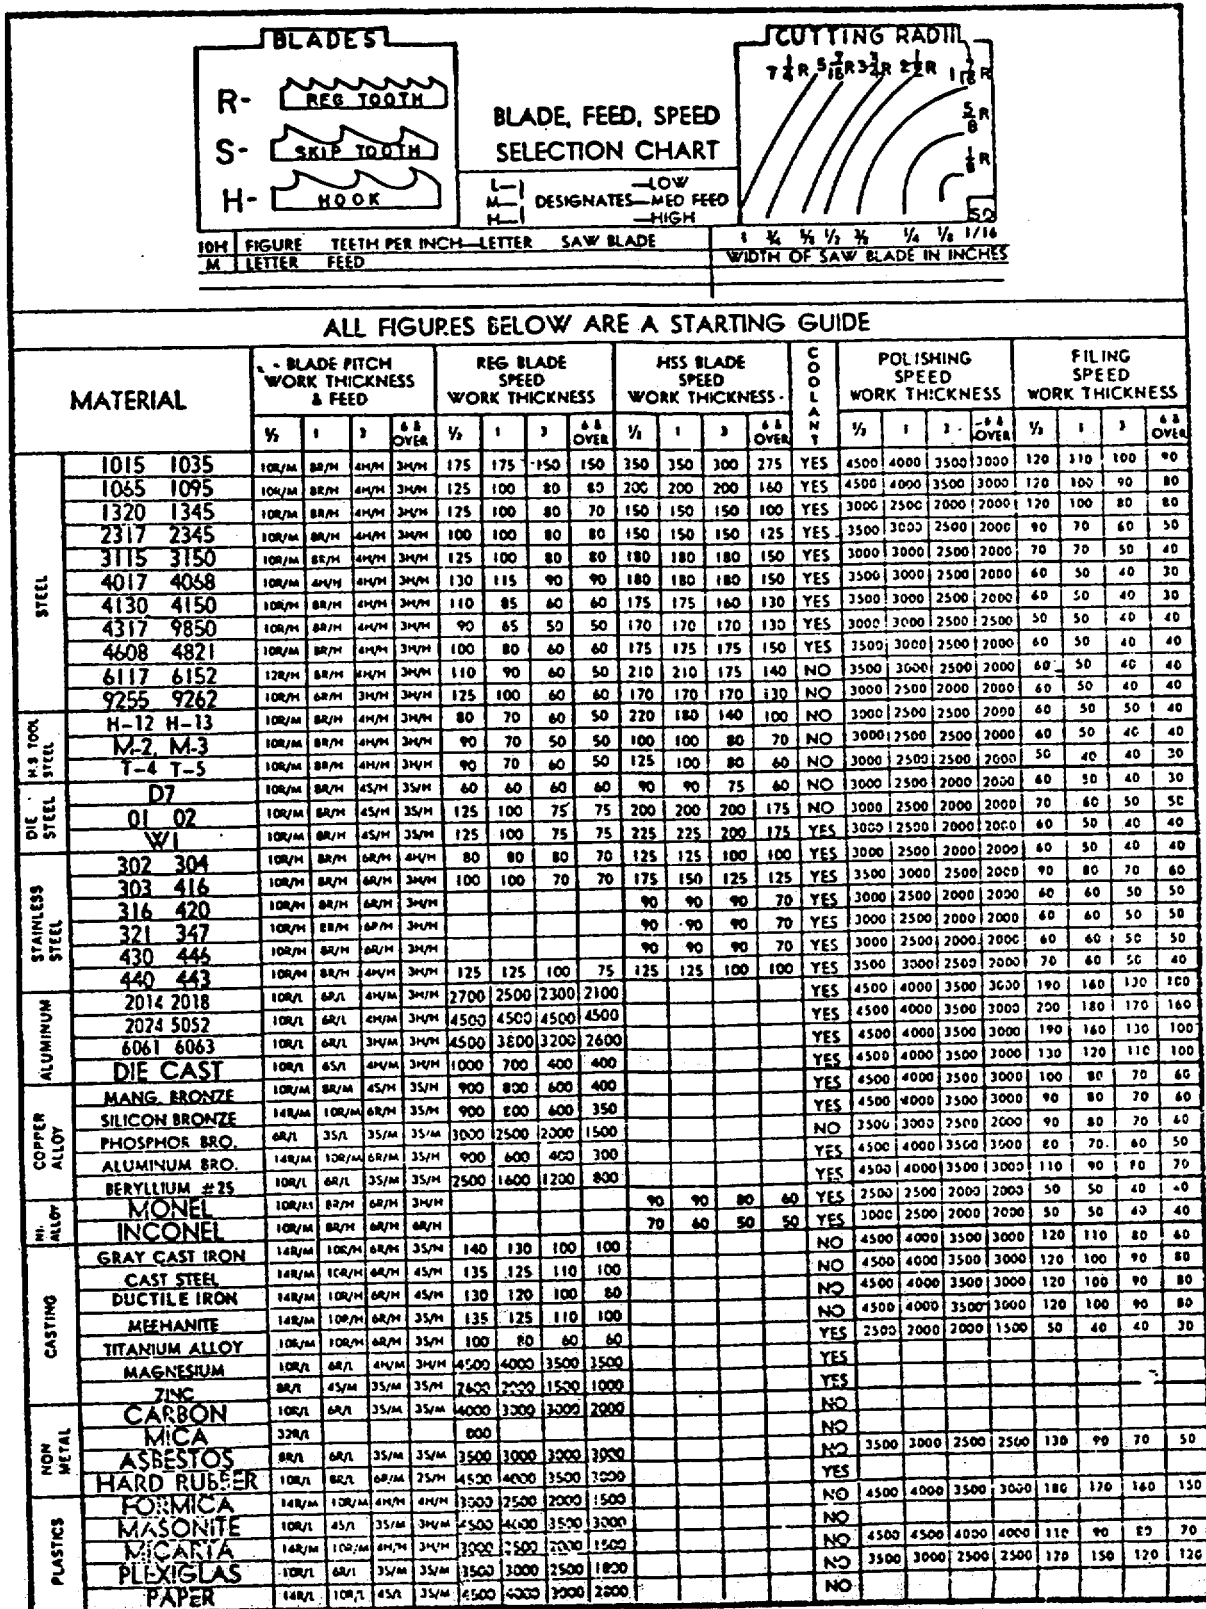
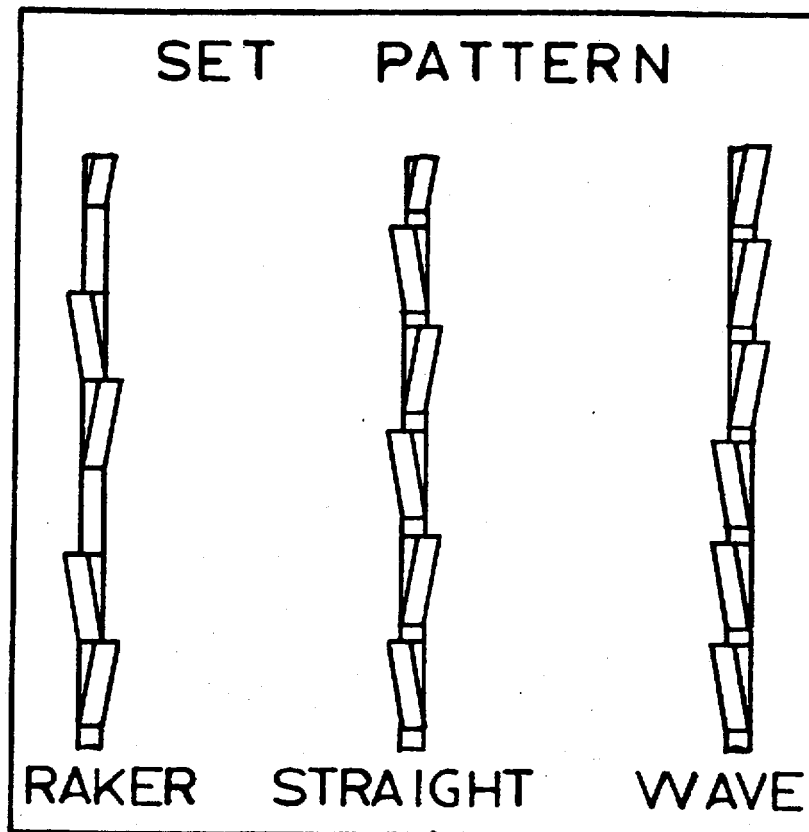

FIGURE 6.
Figure 7. Saw Blade Set Patterns.
The tooth forms are shown in figure 6. In general, the thicker the workpiece, the coarser the pitch of the blade used. Follow the recommendations shown in figure 6 for pitch selection. Set patterns used on band saw blades are shown in figure 7. The raker set is one of the two most commonly used in metal cutting. The other is the wavy set used where the cross section of the work changes such as in cutting of pipe tubing and structurals. The straight set is used for blades to cut wood and plastics. Band materials may be carbon steel, carbon steel with a high speed welded edge, carbon steel with carbide tips, carbon steel with diamond tips, and high speed steel. Caution: Never run a high speed blade over 500 SFM.
1. Using the speed and feed chart (fig.6) or a good band sawing reference, select the speed, feed rate, blade (with reference to the radius chart when applicable), and coolant recommendations for the material and the thickness to be cut.